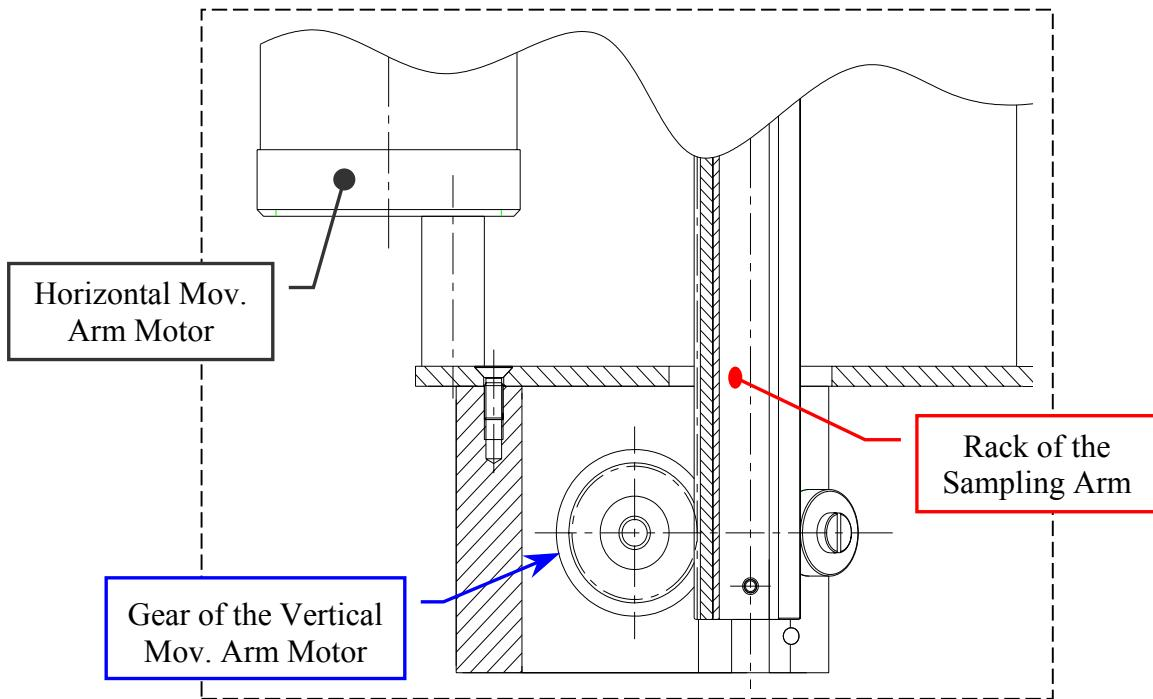

Fig. 22 – Vertical Mov. Arm Motor gear lean on the rack (detail drawing)
9. Lean the gear of the Vertical Mov. Arm Motor on the rack of the Sampling Arm in order that the teeths of the gear has a right grip on the rack (**Fig. 22**).